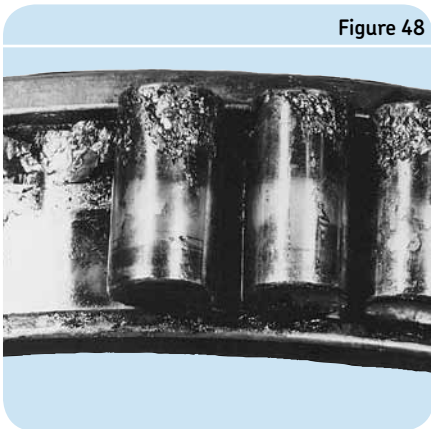

Figure 48
**Figure 48** shows a large bore tapered roller bearing that failed due to an insufficient flow of circulating oil. The area between the guide flange and the large end of the roller is subjected to sliding motion, which as mentioned previously, is the first area to be effected during periods of inadequate lubrication. The heat generated at the flange caused the discoloration of the bearing and resulted in some of the rollers being welded to the guide flange. Information on how to select the proper oil viscosity can be found in the Lubrication section of this catalog on page 88 or at the Calculations section, on the “Services” page of [www.skf.com](http://www.skf.com).